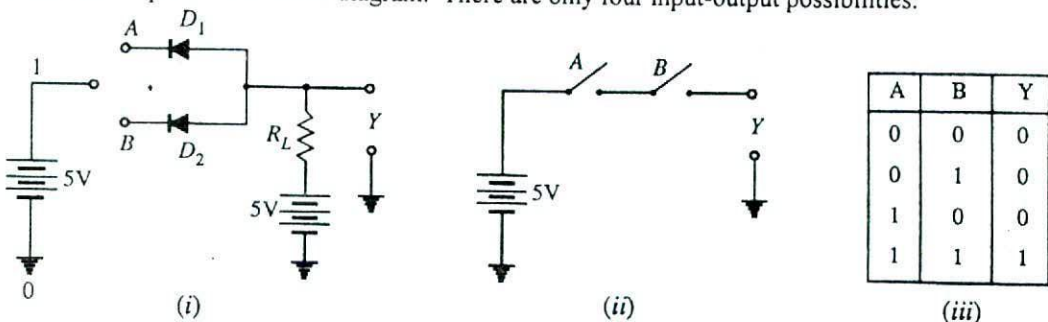

Fig. 27.8
AND gate operation. Fig. 27.8 (i) shows one way to build a 2-input AND gate while Fig. 27.8 (ii) shows its simplified schematic diagram. There are only four input-output possibilities.
* Note that two switches used to represent the OR function were connected in parallel. If the switches are connected in series [See Fig. 27.8 (ii)], AND function is obtained. The output is high if both the switches are closed. The output will be low if either switch is open.
- (i) When both A and B are connected to ground, both the diodes (D_1 and D_2) are forward biased and hence they conduct current. Consequently, the two diodes are grounded and output voltage is zero. In terms of binary, when $A = 0$ and $B = 0$, then $Y = 0$ as shown in truth table in Fig. 27.8 (iii).